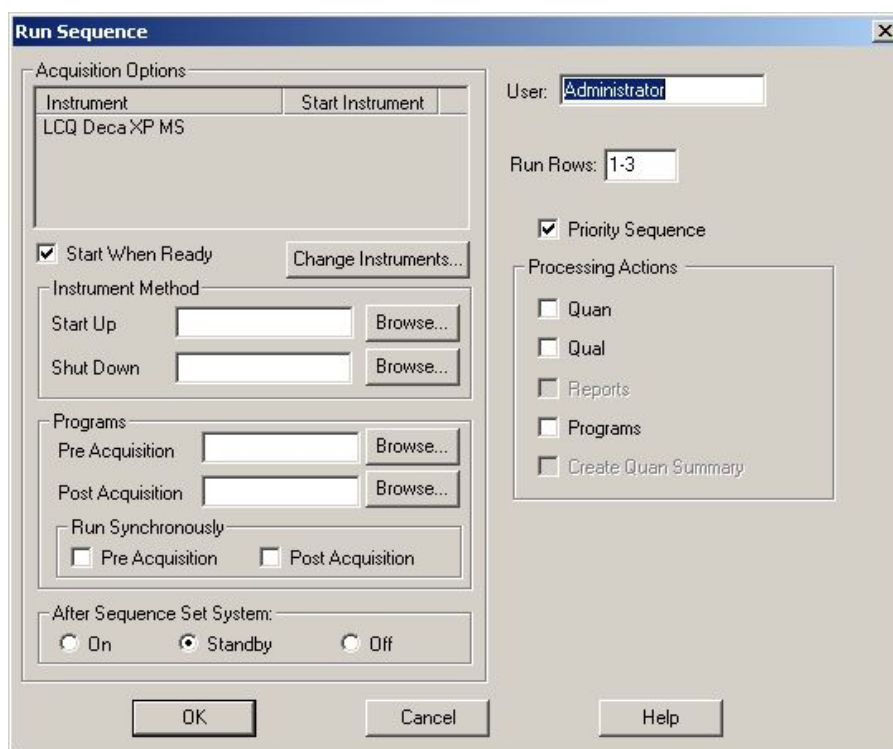

Figure 7.24 Starting the Sequence Run
8. Go to the Actions/Run Sequence menu to open the run sequence dialog window (see Figure 7.24 below).
11. “Change Instruments...” button (see Fig. 7.24); the dialog “Change Instruments In Use” will immediately start.